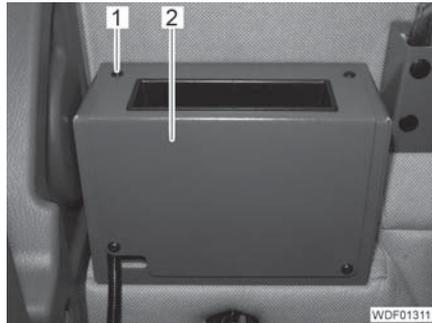

Fig. 367 Cover of the console
- Unscrew the 4 screws (Fig. 367,1).
- Remove the cover (Fig. 367,2).
- Position the cover (Fig. 367,2).
- Screw in and tighten the 4 screws (Fig. 367,1).